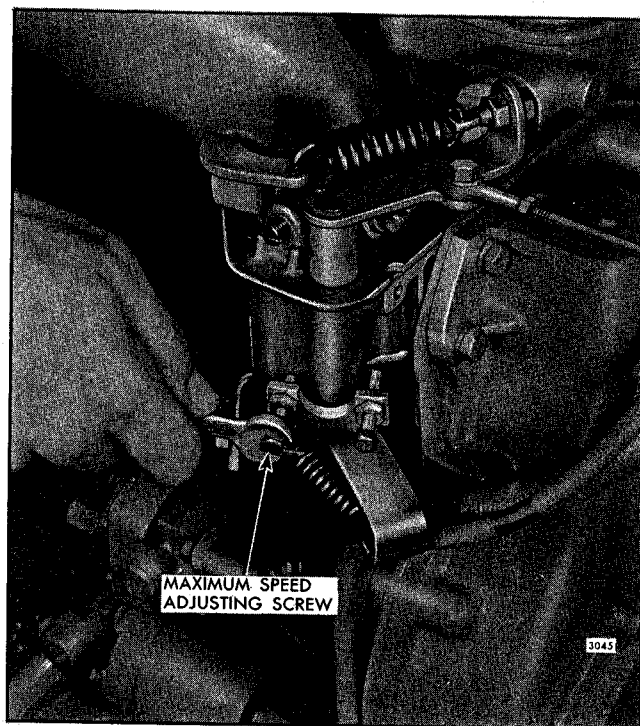

Fig. 6 - Adjusting Maximum No-Load Engine Speed
2. Loosen the lock nut and adjust the maximum speed adjusting screw (Fig. 6) until the required no-load speed is obtained.